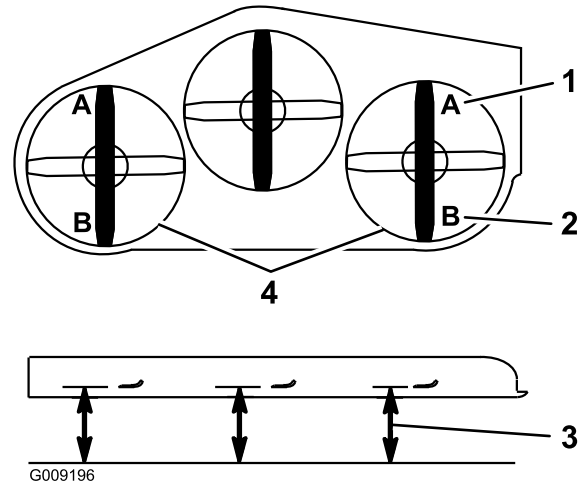

Figure 93
9. On both sides of the deck, measure from the level surface to the front tip of the blade (Position A) as shown in Figure 93.
15. On both sides of the deck, measure from the level surface to the back tip of the blade (position B) as shown in Figure 93.